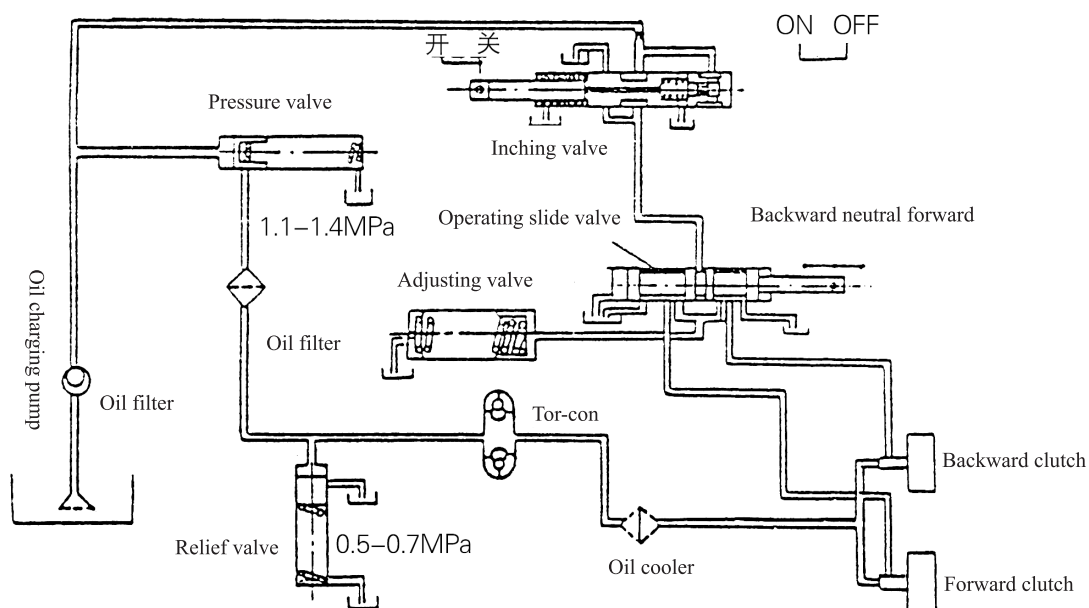

Fig.4-7 Hydraulic circuit
4.7 Hydraulic Circuit(Hydrodynamic Transmission Type Drive Unit)(See Fig.4-7)